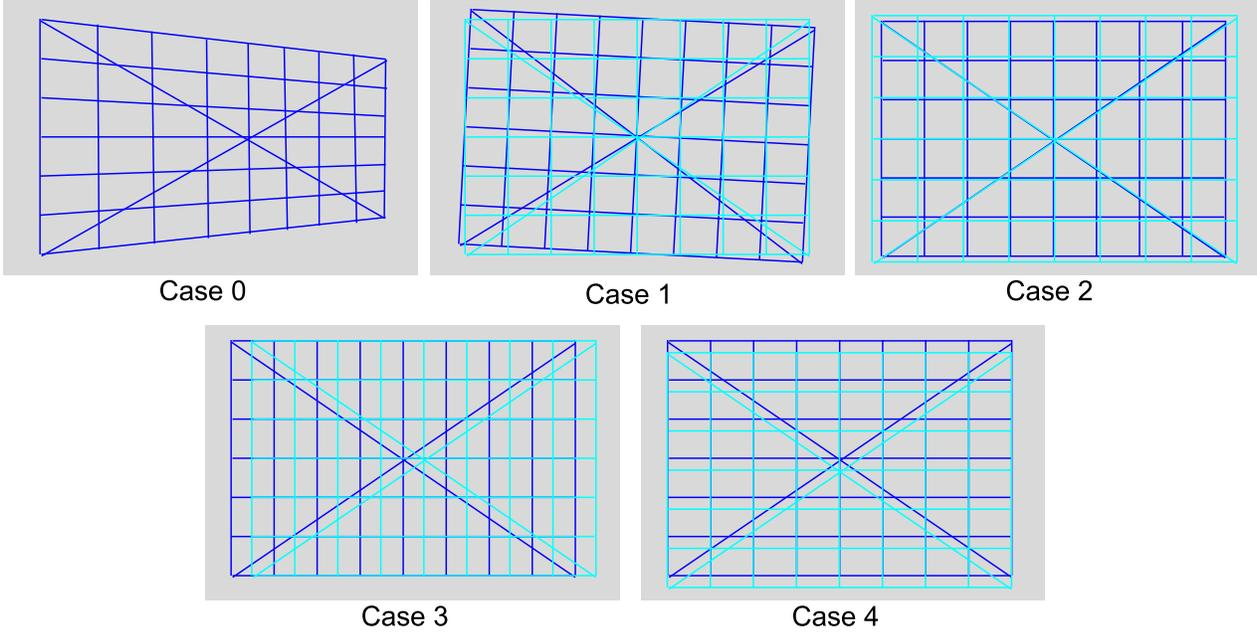

Fig. 16. Misalignment cases (blue: 365 nm, cyan: 405 nm)
- There are 5 types of misalignment (**Fig. 16**)
- If there is a horizontal misalignment (**Case 3 in Fig. 16**), there are two options. Both options will move the Proj-0 (365 nm) and align it to the longer wavelength.
- **Fig. 20-B** shows the misalignment between two projectors. The green channel is too bright without a global dimming. If you have the angle misalignment in the stage (**Case 0 in Fig. 16**), adjust the filter rotation and adjusters to make both grids parallel each other.